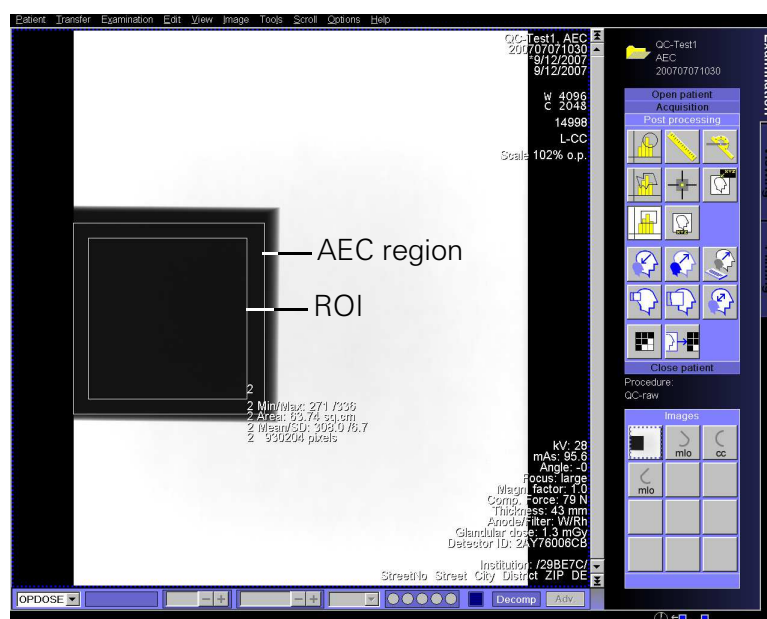

Figure 2 ROI within the AEC region
17. Define a ROI within the AEC region according to Figure 2.